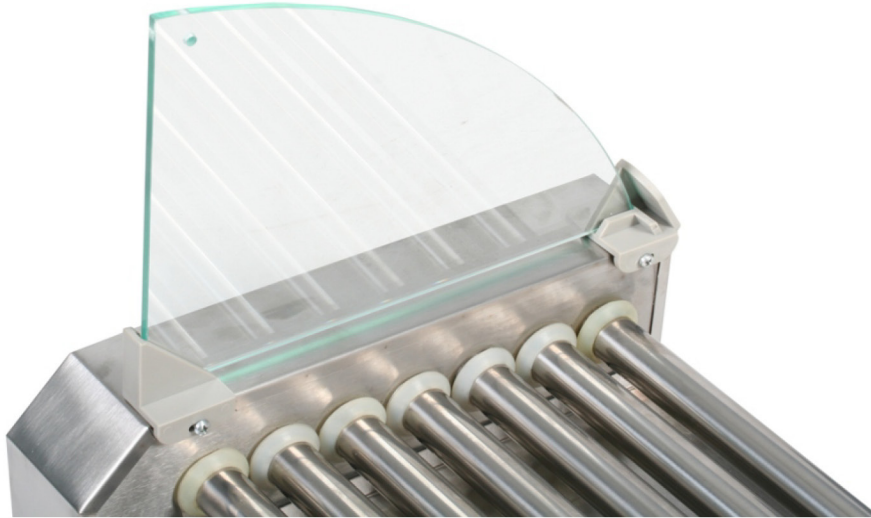

Figure 4
4. Place one of the glass side panels (A) into one set of glass mounts. The mounts may need to be moved forward or back to get a snug fit. Once the fit is snug you may tighten down the screws to hold the glass securely. Repeat for the other side. See figure 4